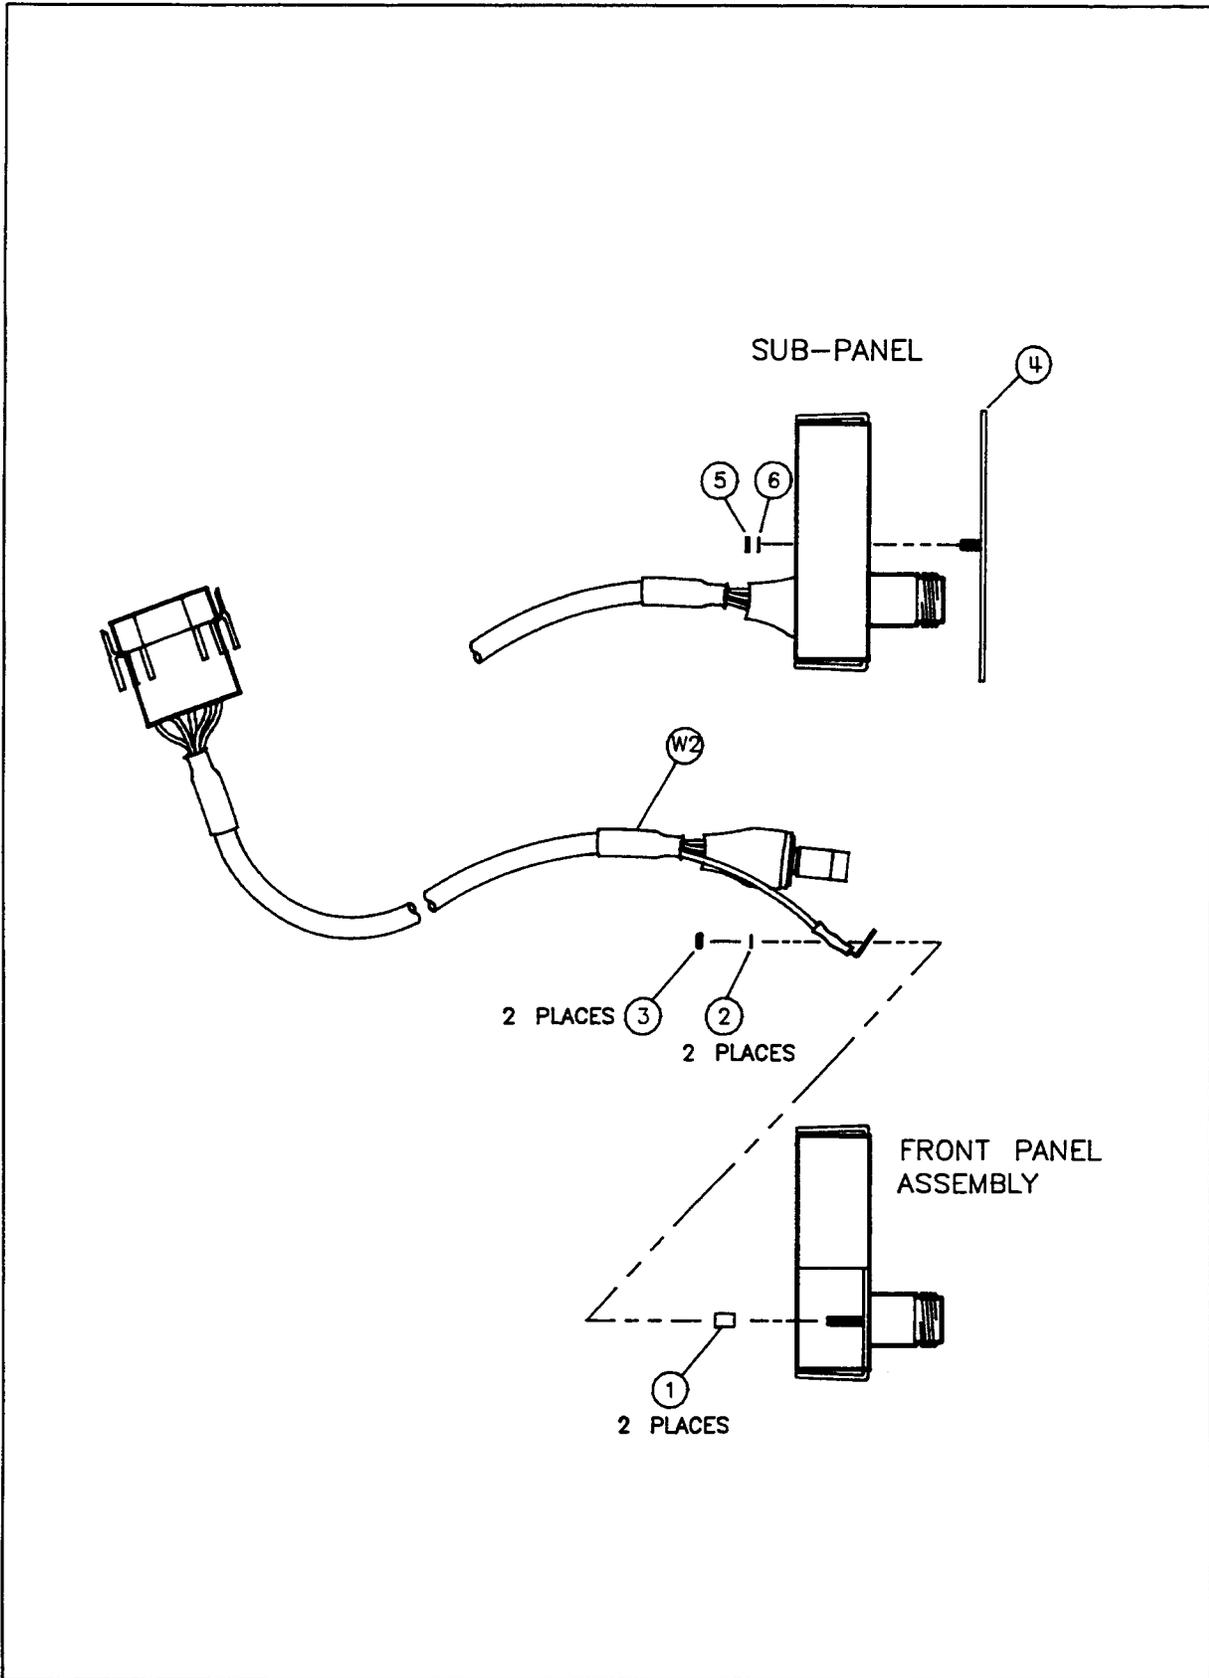

Figure 5-3. Dress Panel, Sub-panel, and Attaching Hardware
3. Remove the two nuts and washers shown in Figure 5-3 (items 5 and 6).
2. Remove the two nuts and washers shown in Figure 5-3 (items 2 and 3) with the 3/16 inch wrench or nut driver.